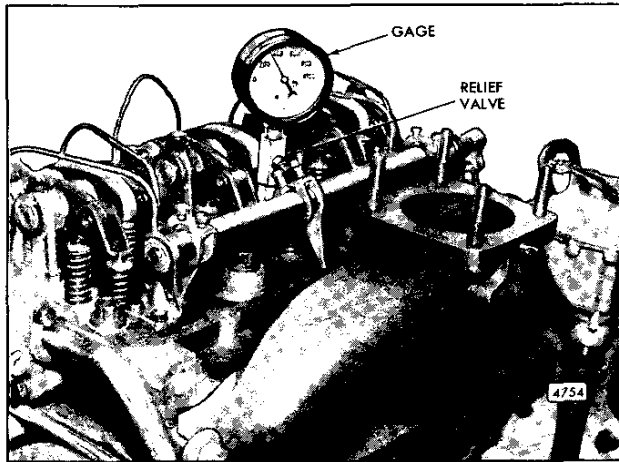

Fig. 1 – Checking Compression Pressure
3. Remove the injector and install adaptor J 7915-02 and pressure gage and hose assembly J 6692 (Fig. 1).
On turbocharged engines, check the exhaust back pressure in the exhaust piping 6" to 12" from the turbine outlet (Fig. 1, Section 13.2). The tapped hole must be in a comparatively straight pipe area for an accurate measurement.